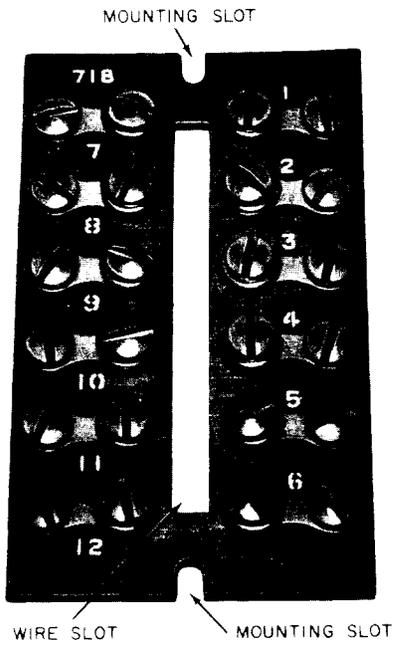

Fig. 1—71B Connecting Block
2.02 The 71B connecting block (Fig. 1) is similar to the 71A connecting block (MD) except it has mounting screw slots instead of holes. The connecting blocks consist of a phenol fabric base equipped with 12 double-screw terminals. The blocks are used for mounting in 113-type and 114A apparatus boxes for installation of panel telephone sets (Table A).